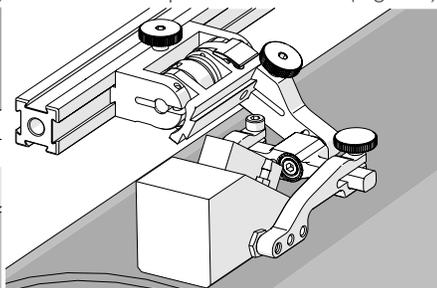

Fig. 109 - Spring loaded scan position
4. Gently lower probe holder and wedge to the scanning surface (Fig. 109).